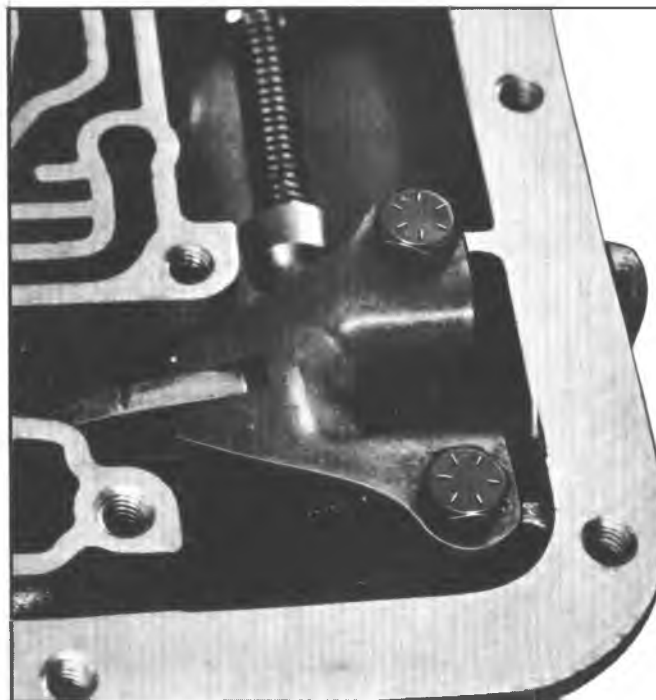

Fig. 101N--Park Lock Bracket Special Bolt Identification
6. Install park lock bracket using two special bolts (GM 300M, 6 mark on head or equivalent) and torque bolts to 29 foot pounds (fig. 101N).